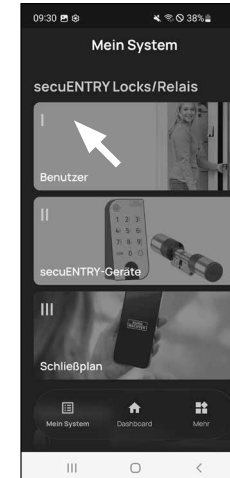

Fig. 1
- 1 Tap on the menu item "I - User" (Fig. 1).